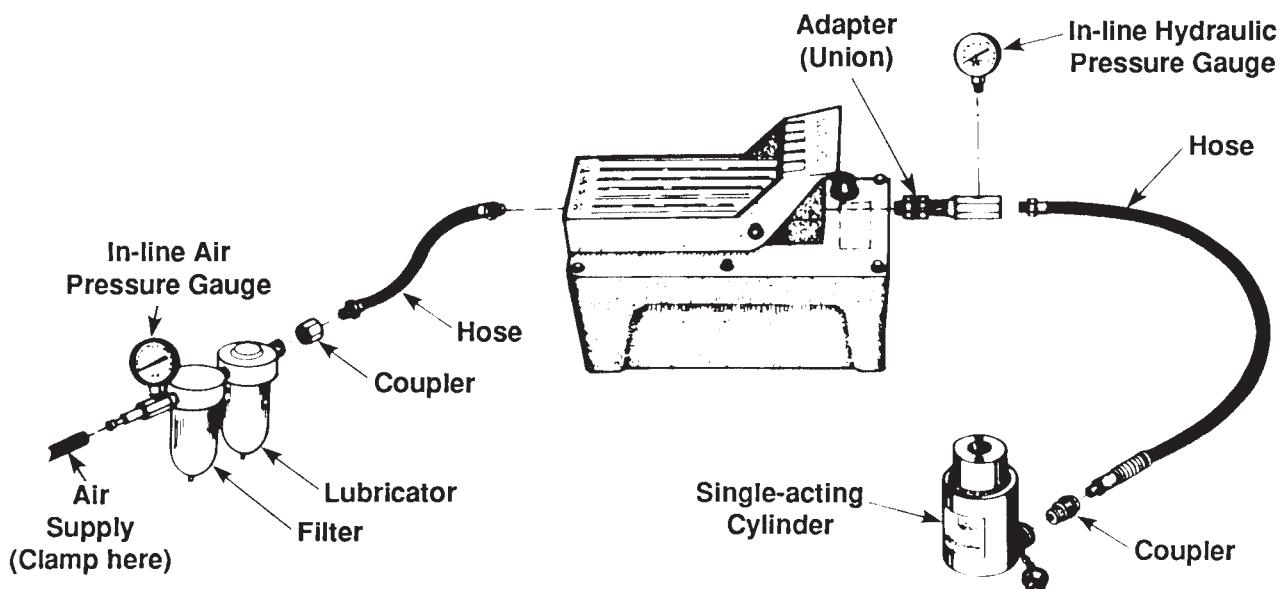

Figure 2
1. Remove the thread protector from the air inlet of the pump. Select and install the thread fittings which are compatible with your supply fittings. **Note: Seal all hydraulic connections with Power Team HTS6 thread sealant. Teflon tape can be used if only one layer of tape is applied carefully, two threads back, to prevent tape from being pinched and broken off inside the pipe. Loose pieces of tape could travel through the system and obstruct the flow of oil.** The air supply should be 20 CFM and 100 PSI to obtain the rated hydraulic output. Air pressure should be regulated to a maximum of 125 PSI. Secure your pump fitting to the air supply. See Figure 2.
1. Remove the male fitting from the air filter and install a tee adapter, with gauge, between the hose and air filter. See Figure 2.
2. Install a tee adapter, with gauge, between the hose coupling and the pump hydraulic outlet port. See Figure 2.